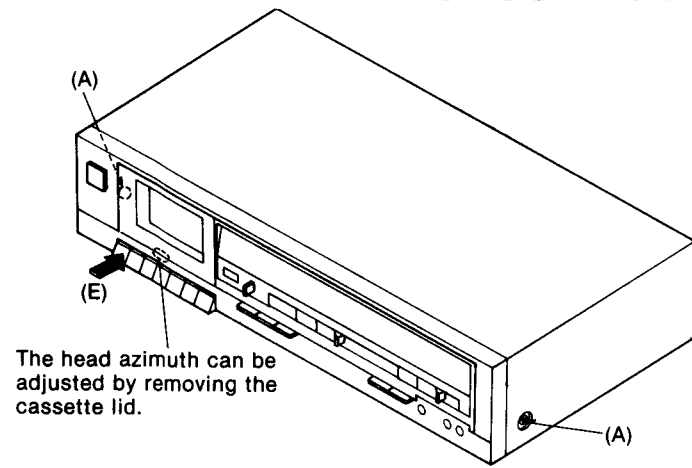

Fig. 1
<p>Tape speed accuracy</p> <p>1. Test equipment connection is shown in fig. 7.</p> <p>2. Playback test tape (QZZCWAT 3,000Hz), and supply playback signal to the digital frequency counter.</p> <p>3. Measure this frequency.</p> <p>4. On the basis of 3,000Hz, determine value by following formula:</p> $\text{Tape speed accuracy} = \frac{f-3,000}{3,000} \times 100(\%) \quad \text{where, } f = \text{measured value}$ <p>5. Take measurement at middle section of tape.</p> <p style="text-align: center;">Standard value: ±1.5%</p> <p>6. If measured value is not within the standard value, adjust it by using the tape speed adjustment VR shown in fig. 1.</p> <p>Note: Please use non metal type screwdriver when you adjust tape speed accuracy on this unit.</p> <p>Tape speed fluctuation</p> <p>Make measurements in same manner as above (beginning, middle and end of tape), and determine the difference between maximum and minimum values and calculate as follows:</p> $\text{Tape speed fluctuation} = \frac{f_1-f_2}{3,000} \times 100(\%) \quad f_1 = \text{maximum value, } f_2 = \text{minimum value}$ <p style="text-align: center;">Standard value: Less than 1%</p>
<p>1. Test equipment connection is shown in fig. 2.</p> <p>2. Playback standard recording level portion on test tape (QZZCFM 315Hz) and, using VTVM, measure the output level at test points [TP3 (L-CH), TP4 (R-CH)].</p> <p>3. Make measurements for both channels.</p> <p style="text-align: center;">Standard value: 0.42V [0.4V±1dB: at LINE OUT jack]</p> <p>Adjustment</p> <p>1. If the measured value is not within the standard, adjust VR1 (L-CH) or VR2 (R-CH) (See fig. 1).</p> <p>2. After adjustment, check "Playback frequency response" again.</p>
<p>1. Test equipment connection is shown in fig. 9.</p> <p>2. Place UNIT into metal tape mode.</p> <p>3. Press the record and pause buttons.</p> <p>4. Read voltage on VTVM and calculate erase current by following formula:</p> $\text{Erase current (A)} = \frac{\text{Voltage across resistor R84}}{1 (\Omega)}$ <p style="text-align: center;">Standard value: 155±15mA (Metal)</p> <p>5. If the measured value is not within the standard value adjust it by following the adjustment instructions.</p> <p>Adjustment</p> <ul style="list-style-type: none"> <li>• If the erase current is more than 165mA, cut the jumper wire (See fig. 1).</li> </ul>